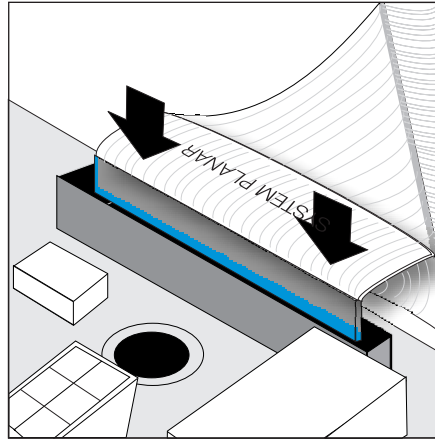

Figure 67. Installing the service controller cable into the SAN Volume Controller 2145-4F2 system board
11. To reinstall the cables, *carefully* install the one end of the ribbon cable (marked System Planar) to the system board being sure to install the cable straight in. See Figure 67 on page 85.